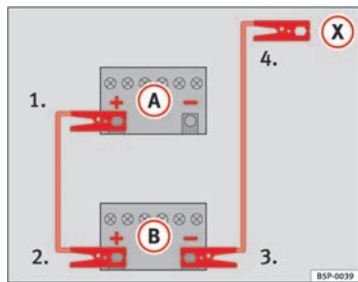

Fig. 230 How to connect the jump leads
On $\Rightarrow$ fig. 230 (A) shows the flat battery and (B) the charged battery.
- 1. Connect one end of the red jump lead to the positive $\Rightarrow$ fig. 230 (+) terminal of the vehicle with the flat battery $\Rightarrow$ ⚠.
- 4. Connect the other end of the black jump lead (X) to a solid metal component which is bolted on to the engine block, or onto the engine block itself of the vehicle with the flat battery. Do not connect it to a point near the battery $\Rightarrow$ ⚠.